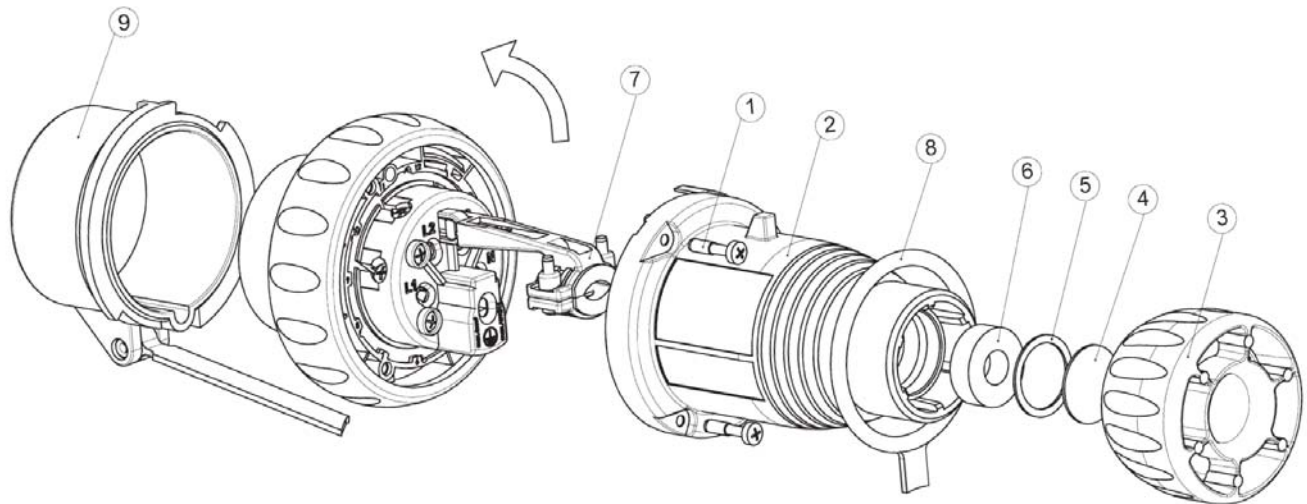

Figure 1
Referring to Figure 1 above, loosen screws (1) and remove the plug housing (2). Then unscrew the compression collar (3) and remove the close-up disc (4) and discard it. Then remove the friction washer (5) and grommet (6).